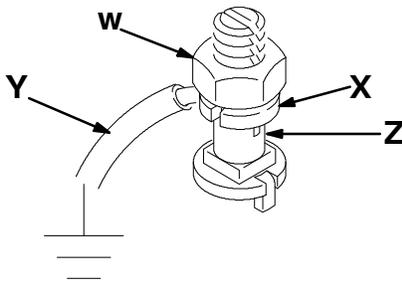

Fig. 2
1. *Pump*: connect the ground wire and clamp to a true earth ground as shown in Fig. 2.
- a. Loosen the grounding lug locknut (W) and washer (X).
- b. Insert one end of the 1.5 mm² (12 ga) minimum ground wire (Y) into the slot in lug (Z) and tighten the locknut securely.